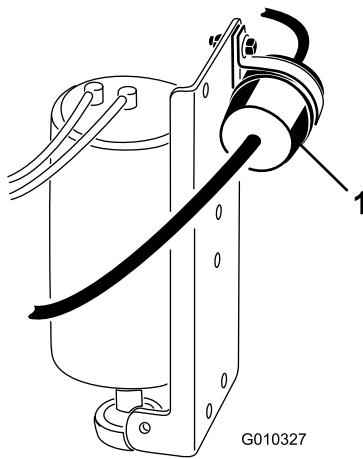

Figure 41
2. Place a clean container under the fuel filter (Figure 41).